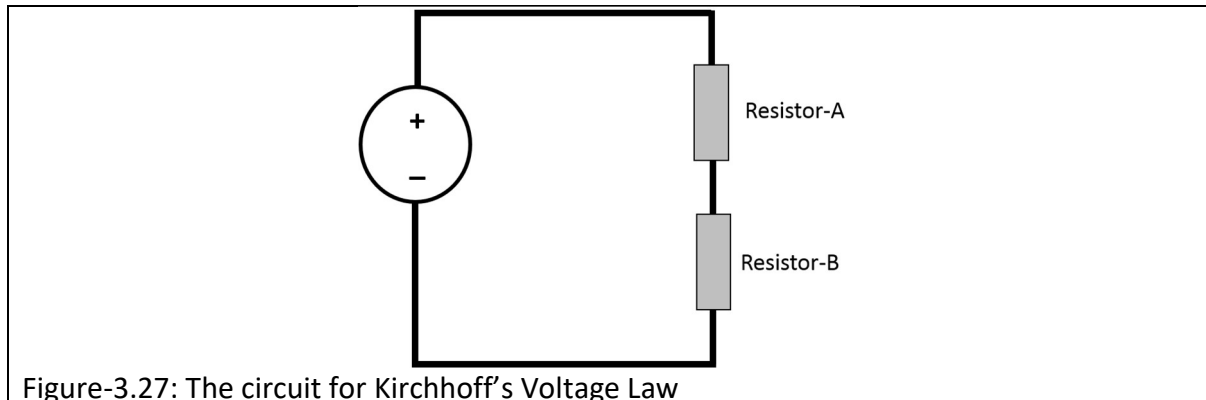
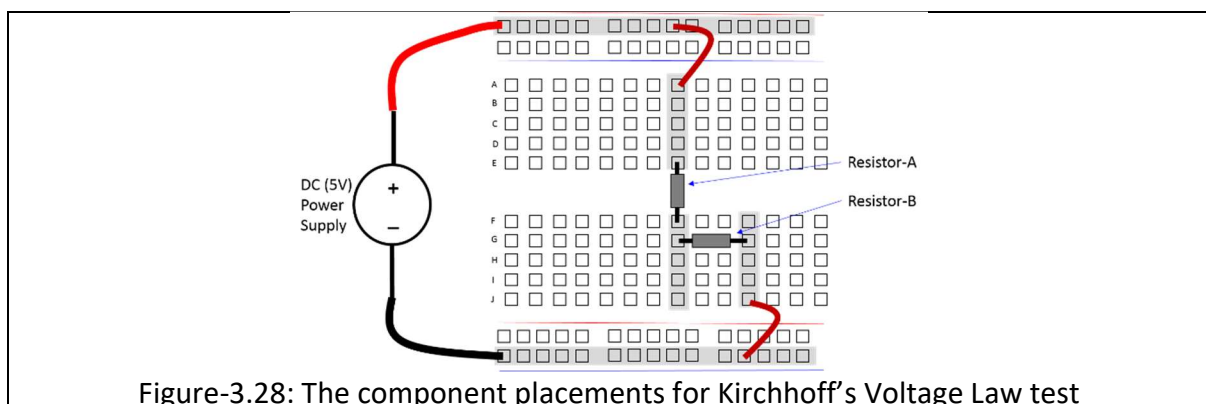

Figure-3.27: The circuit for Kirchhoff's Voltage Law
Figure-3.28: The component placements for Kirchhoff's Voltage Law test
1. Power OFF the power supply. Build the circuit in Figure-3.27 on the breadboard as shown in Figure-3.28.